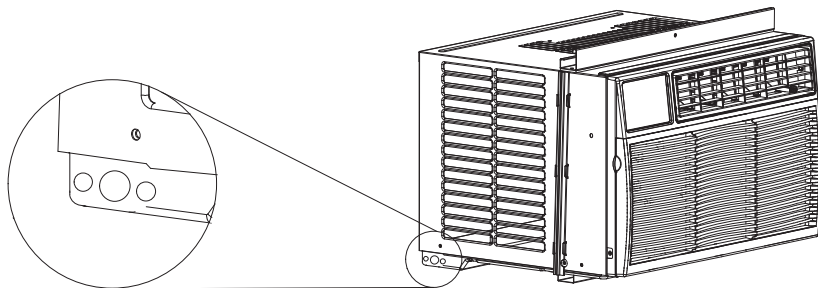

Figure 2
2. Remove the drainage gasket from the body base plate- Figure 2.